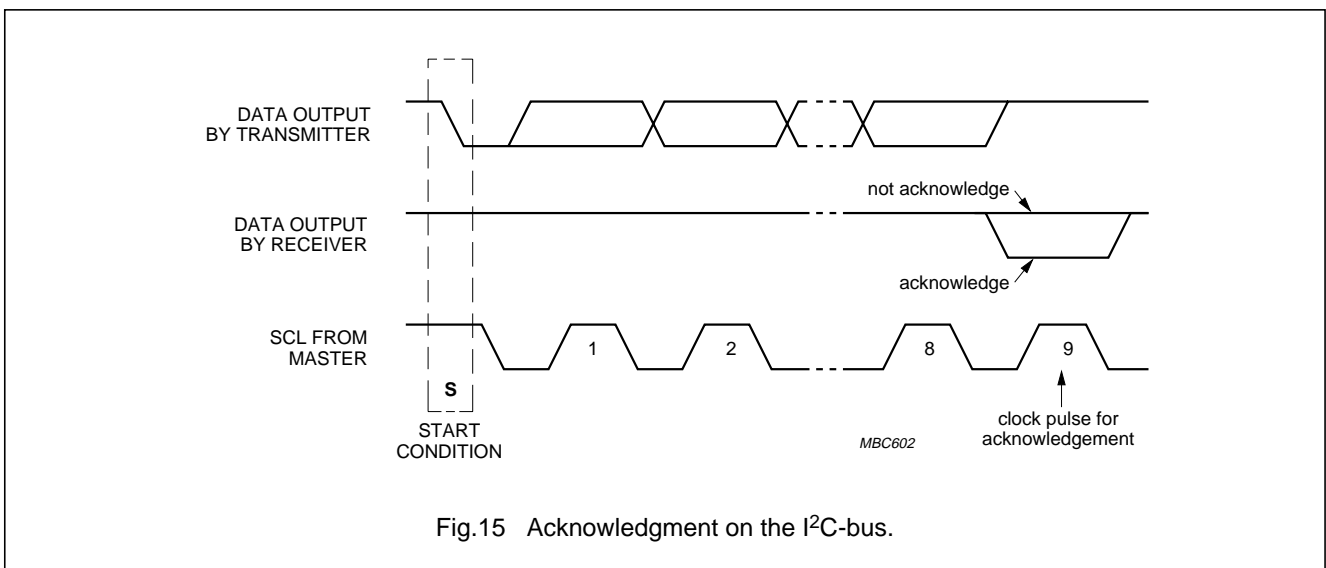

Fig.15 Acknowledgment on the I2C-bus.
**8.4 Acknowledge** (see Fig.15)